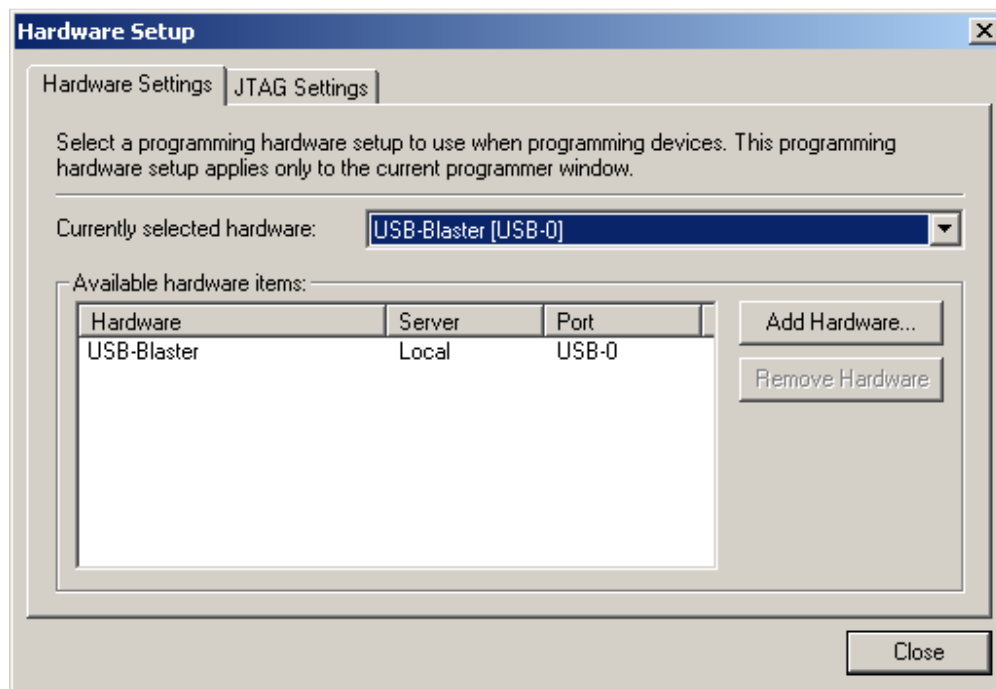

Figure 8 : The “Hardware Setup” window
5. The “Hardware Setup” window should appear as shown in Figure 8. Select “USB-blaster (USB-0)” and click “Close”.